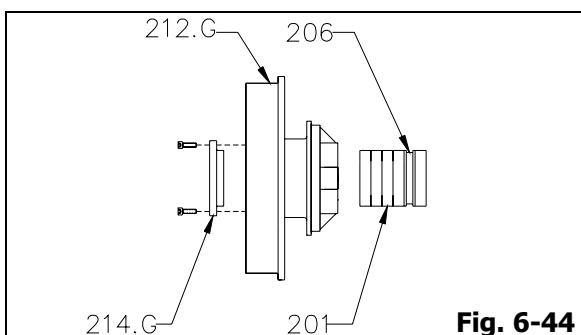

Fig. 6-44
6. Remove packings (201) and lantern ring (206) from stuffing box cover (212.G).
7. Remove all end ring bolts and lift off end ring for gland packing (214.G) from stuffing box cover (212.G) (Fig. 6-44).